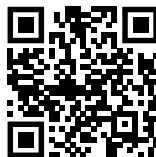

Fig. 113
- Öppna Liebherr SmartMonitoring Dashboard. (se Fig. 113)